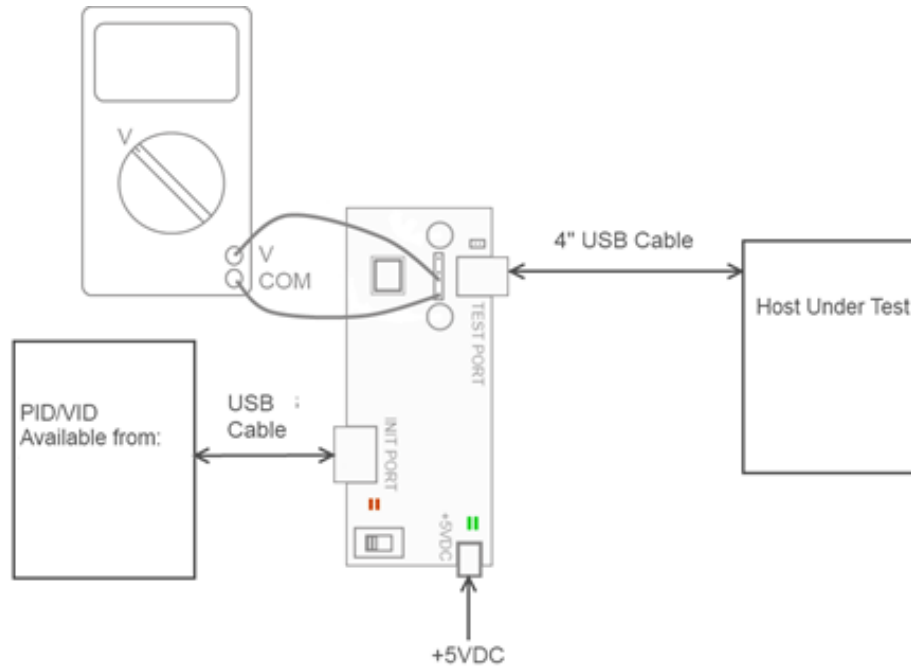

Figure 80. Host Test_J/K, SE0_NAK Test environment
2. Connect the equipment and test fixture as shown in Figure 80.